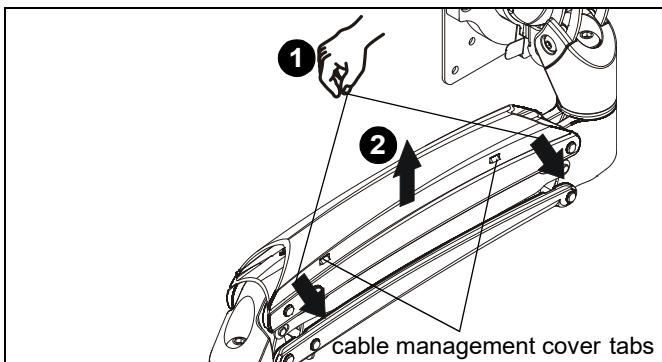

Figure 22
1. Press insides of cable management covers at both ends to unhinge tabs on either end of cable management cover on upper arm. (See Figure 22)
2. Lift cable management cover up until tabs are unhinged and cover is in the "open" position. (See Figure 22)